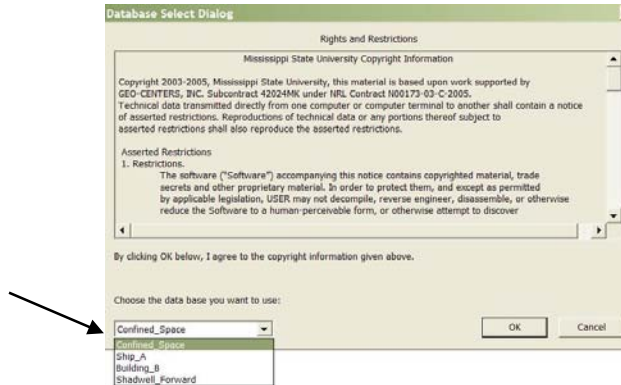

Figure 3-1 Database Selection
Step 1: The Database Selection dialog (shown in Figure 3-1) pops up. From the drop down menu, select the Confined Space database (Confined_Space) and click OK